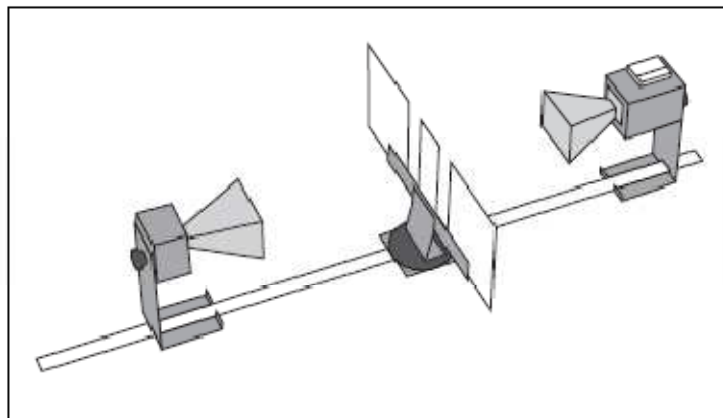

Figure 7.6 Equipment Setup
- 1- Arrange the equipment as shown in Figure 7.6 Use the Slit Extender Arm, two Reflectors, and Slit Spacer to construct the double slit. (We recommend a slit width of about 1.5 cm.) Be precise with the alignment of the slit and make the setup as symmetrical as possible.